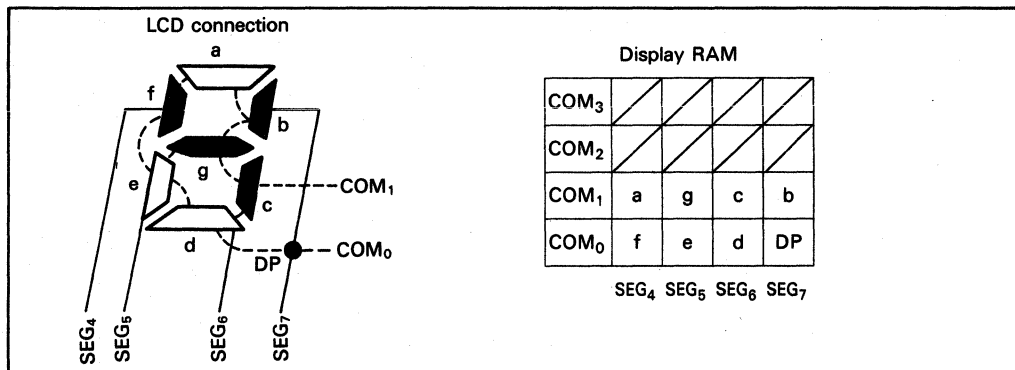

Figure 5 Example of Correspondence between LCD Connection and Display RAM (1/2 Duty Cycle, HD61604)
2. **1/2 Duty Cycle Drive:** In the 1/2 duty cycle drive, the columns of COM_0 and COM_1 of display RAM are output in time sharing. The columns of COM_2 and COM_3 are not displayed (figure 5).